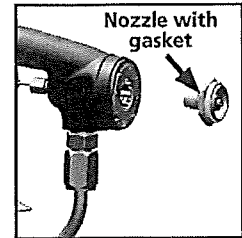

Fig. 5
2. While fully depressing the trigger remove the fluid nozzle and gasket. (See fig 5)
4. While fully depressing the trigger install the new fluid nozzle and gasket. Torque fluid nozzle from 12-15 N-m [9-11 ft-lbs]. (See fig 5)